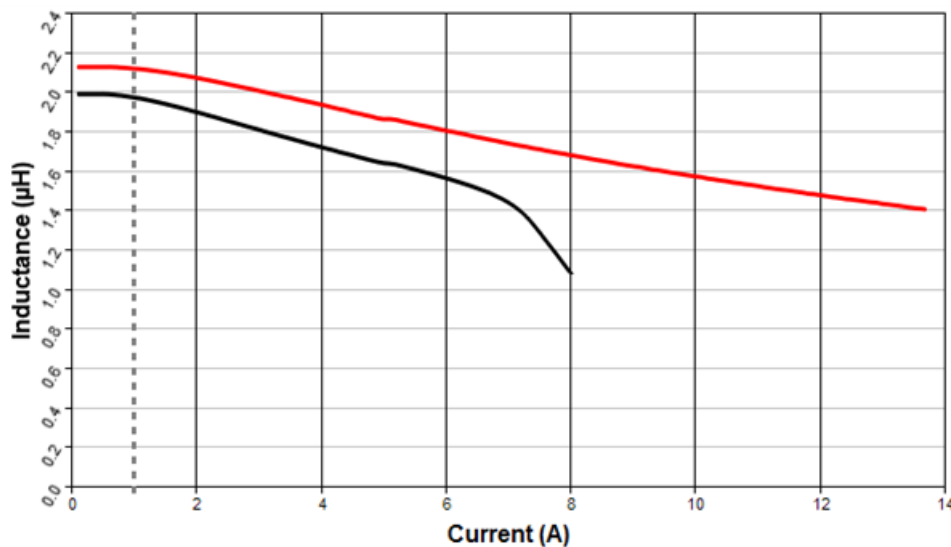

Figure 1. Inductor Core Saturation: Hard Saturation (Black) /Soft Saturation (Red)
- Hard saturation: the inductance drops drastically as soon as the saturation point is reached (see Figure 1). This is the case for inductors with winding on a solid core.